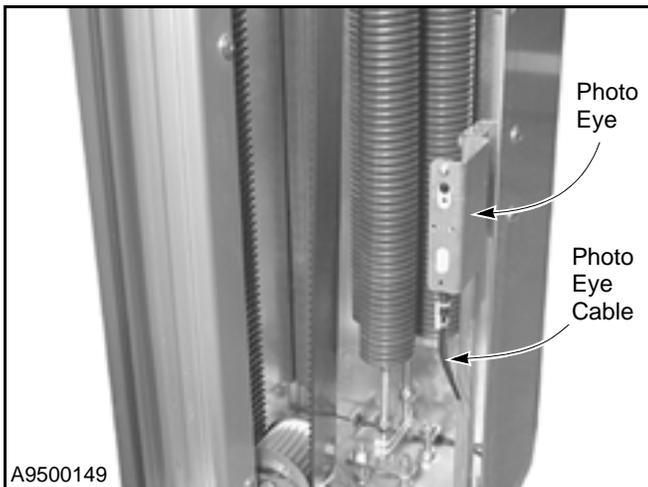

Figure 62
1. Locate each factory-installed photo eye module and its required wire cable. (See Figure 62.)